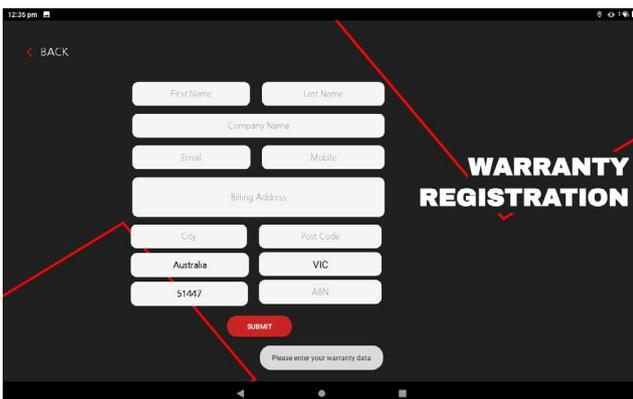
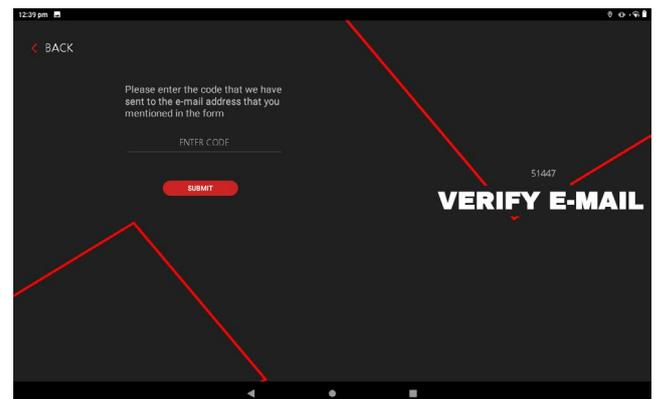

Figure 13
Figure 14
Step 9: Warranty Registration: Enter the required details for warranty registration (Figure 13). Note: Please provide a valid email address for registration submission and input the code sent to the provided email address for verification (Figure 14). If you have any issues with the activation process, please contact AutoTest Products.